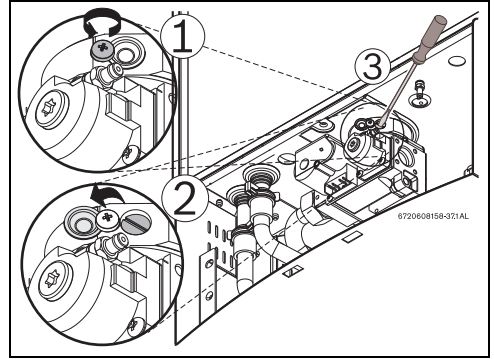

Fig. 74 Adjusting P1 CO₂ level
- ▶ Loosen yellow painted Phillips screw (1) and cover should rotate down (2) revealing a recessed brass slotted screw. (fig. 74).